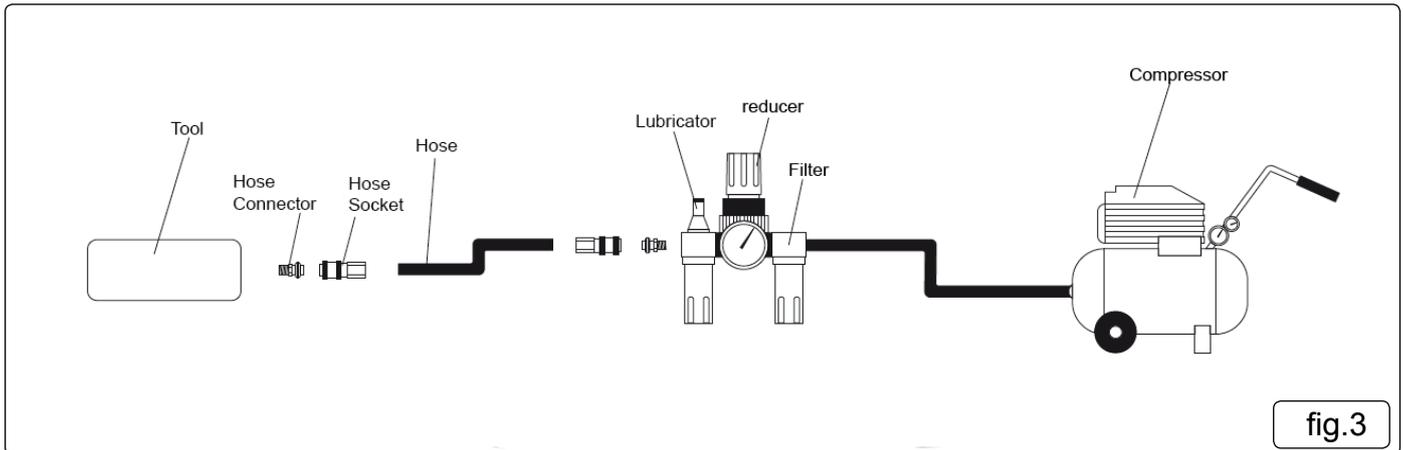

fig.3
- 4.2.3. Connect the tool to pneumatic system using a hose of inner diameter 10 mm / 3/8". Make sure that the hose resilience is at least 1,38 Mpa (fig.3).